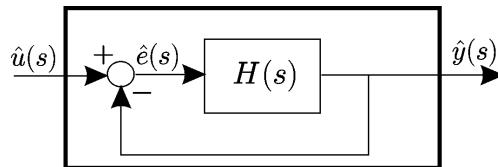

Figure 4.5: Looped system
- 3) Let us loop the system  $H(s)$  as shown on Figure 4.5.